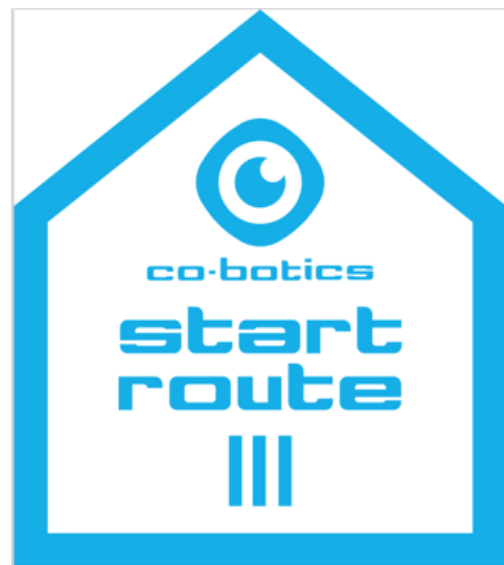

Figure 34
9. Drive the CO-BOTIC 65 to the start point marker (Figure 34) of the desired route. As programmed and instructed by the service partner.